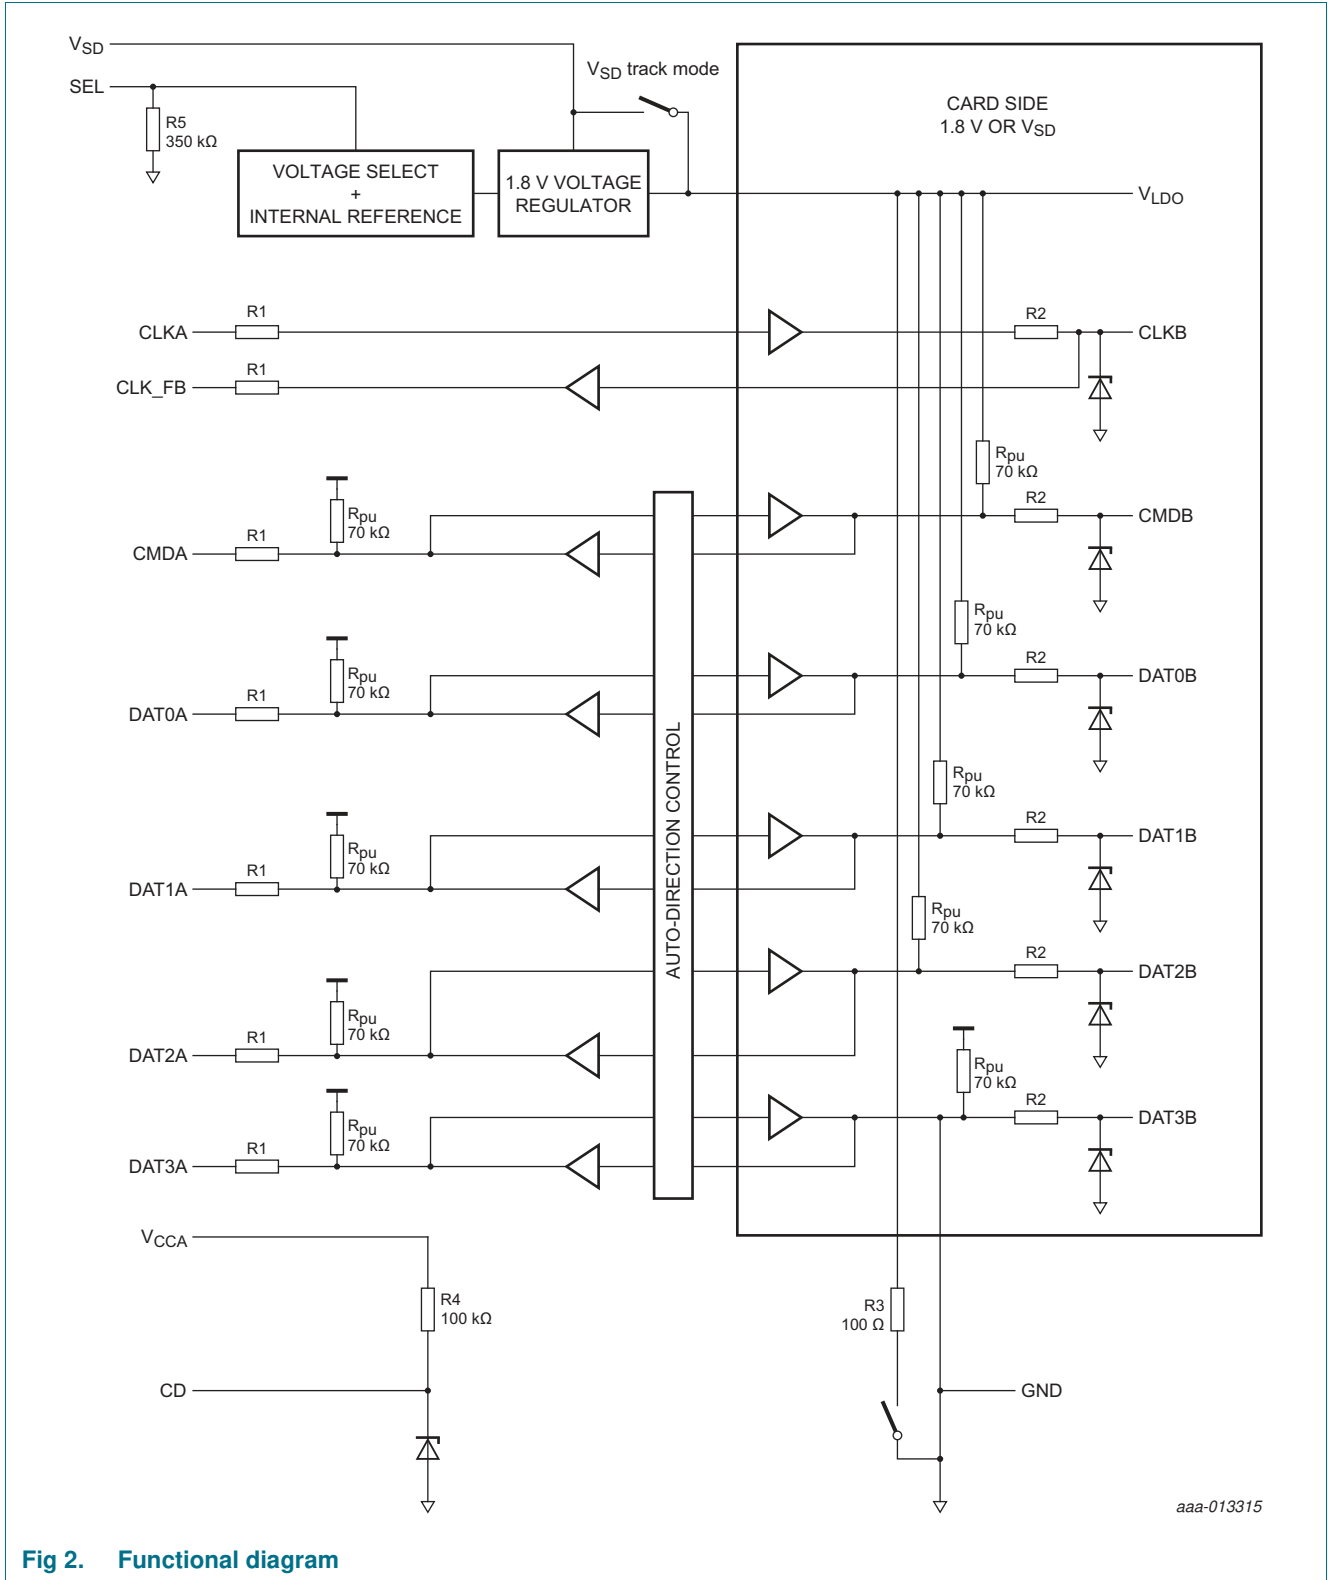

Fig 2. Functional diagram
1. CLKA is a pure high-ohmic input. Please refer to Figure 2 "Functional diagram" for more detail.